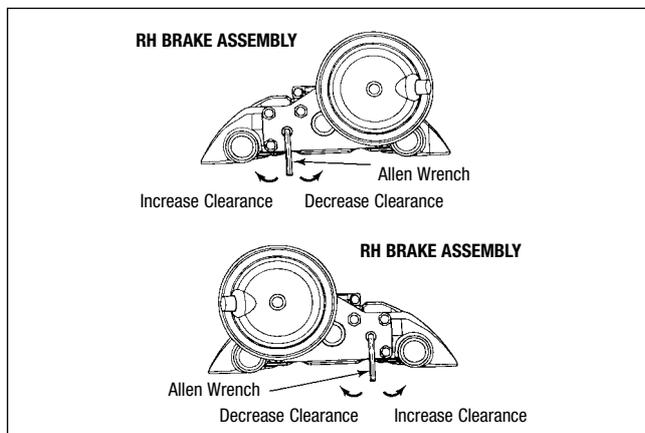

FIG. 14a
- To adjust the initial caliper clearance, adjust the caliper by reducing the caliper to rotor clearance to zero (See Fig. 14a for the adjusting direction). Make sure that the load plate is in full contact with the pad backing plate. Back-off the brake seven clicks to set the initial clearance.